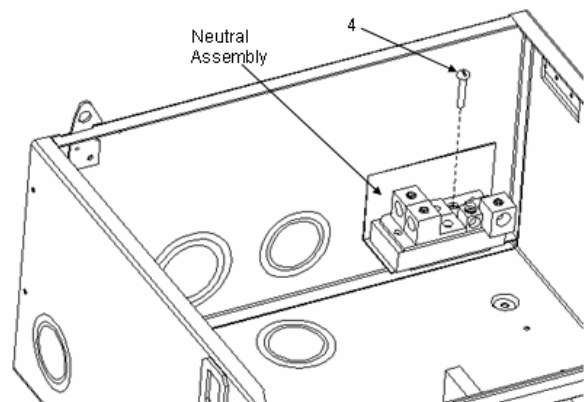

Figure 2.
2. For bonding, insert item 4 (Bonding screw) through hole in neutral & thread screw in to tapped hole in mounting bracket of neutral assembly. Ref. Fig 2.